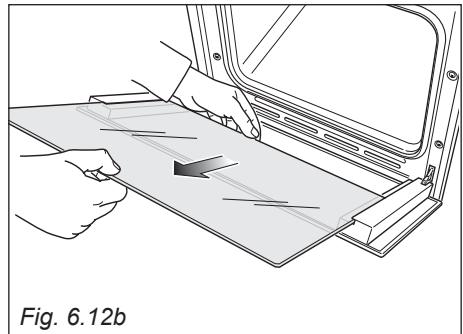

Fig. 6.12b
- Gently pull out the inner pane of glass (fig. 6.12b).